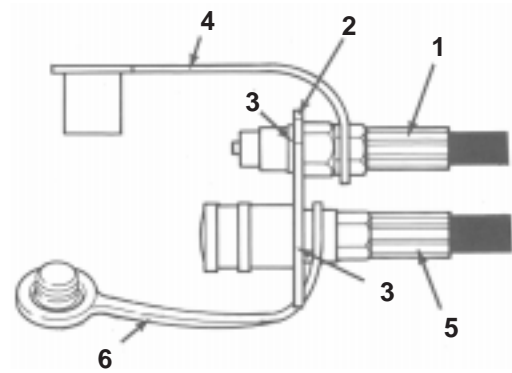

Figure 13
2. Secure hose assembly to female coupler (Fig. 13).
3. Slide loop end of dust cap (Fig. 13) over end of hydraulic hose coming from top valve fitting. Install male nipple to hose end.
4. Insert end of hose thru top hole in coupler bracket (Fig. 13). Secure hose assembly to bracket with retaining ring.